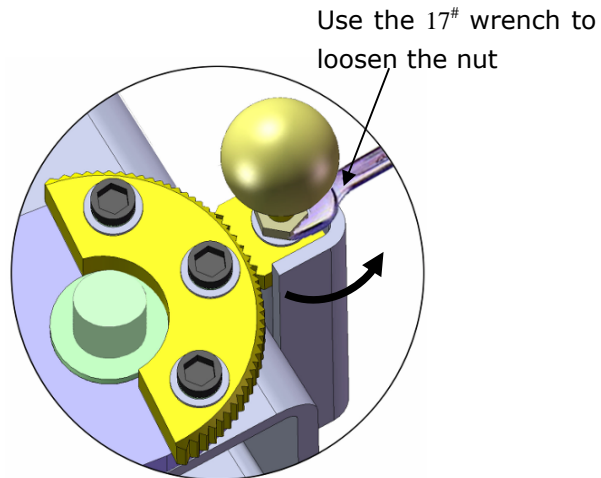

Fig. 29
2. Lowering the carriages down to the lowest position, then use the 17[#] wrench to loosen the nut of arm lock (See Fig. 29).